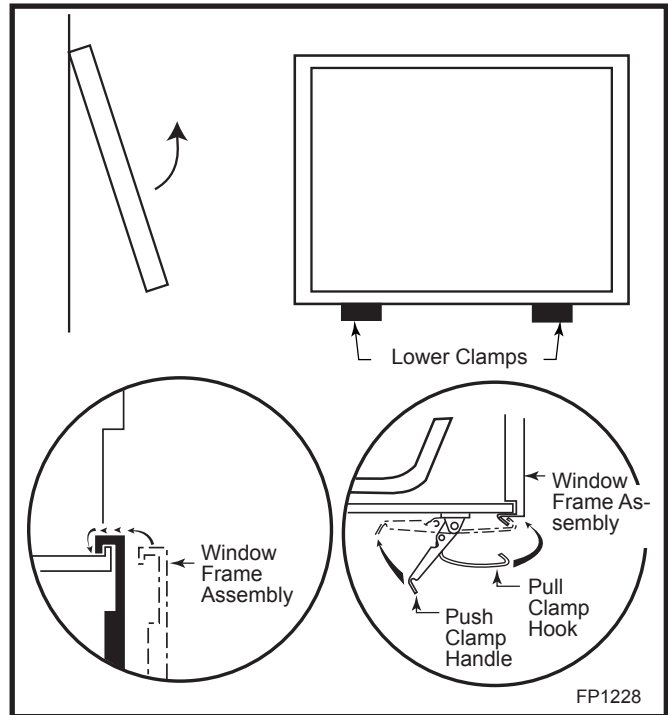

Fig. 39 Window frame assembly removal.
5. Release the two clamps securing the lower edge of the frame by pulling down on the handles. (Fig. 39)